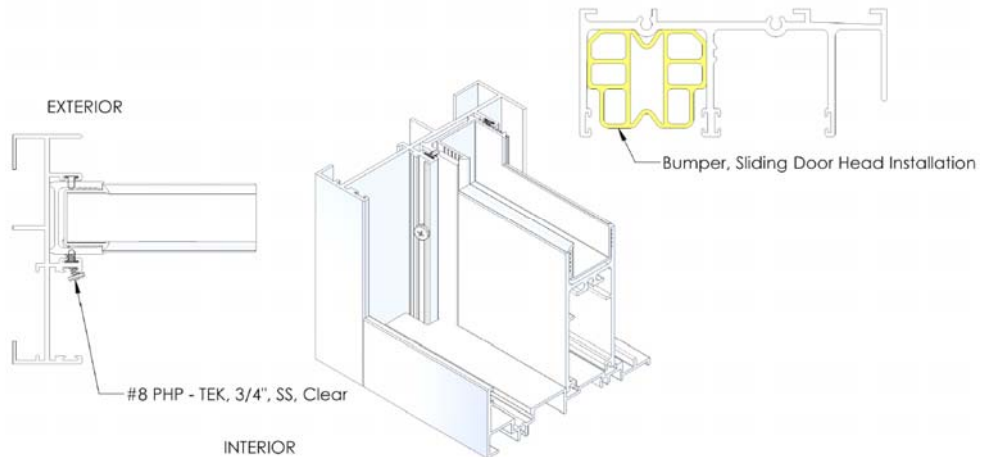

Figure 19:
11. Install one (1) #8 x 3/4" pan head TEK security screw into the predrilled hole in the mohair channel (below the glass line), near to the bottom of the fixed jamb (Figure 19).